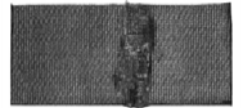

Fig. 22
- ⊞ Abrasion Damage – frayed fibers on the surface exposing the “picks” or cross fibers, of the webbing that hold the load-bearing (length wise) fibers in place. Occurs either when the sling slips while in contact with a load during a lift or when the sling is pulled from under a load. (see fig. 22)